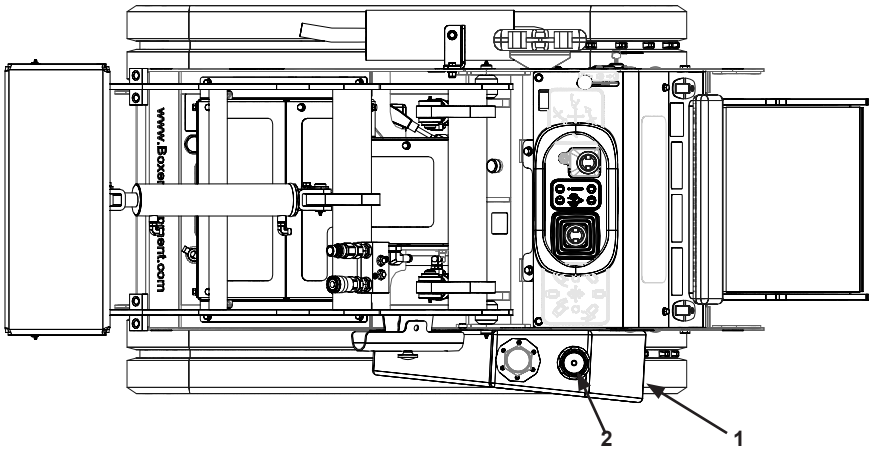

Figure 3-3 Fuel Level Check
3. The Boxer has one saddle fuel tank (Item 1, **Figure 3-3**). The tank has a fuel gauge located in the filler cap (Item 2, **Figure 3-3**). Remove cap and visually inspect fuel level to make sure that the indicator is showing the proper fuel level. Make sure that the tank has been filled on a daily basis.